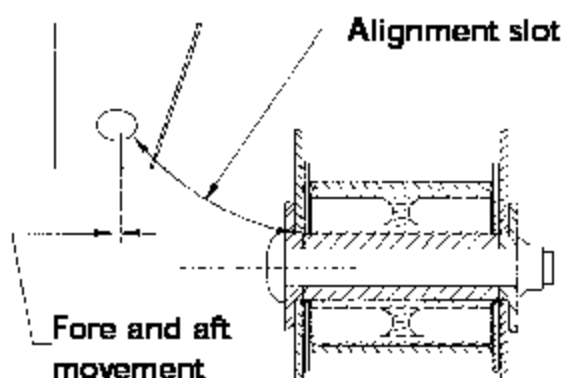

Figure 5 - Showing fore and aft movement for the Welded Collar
- b. Adjust the side with the maximum available adjustment (Figure 5).